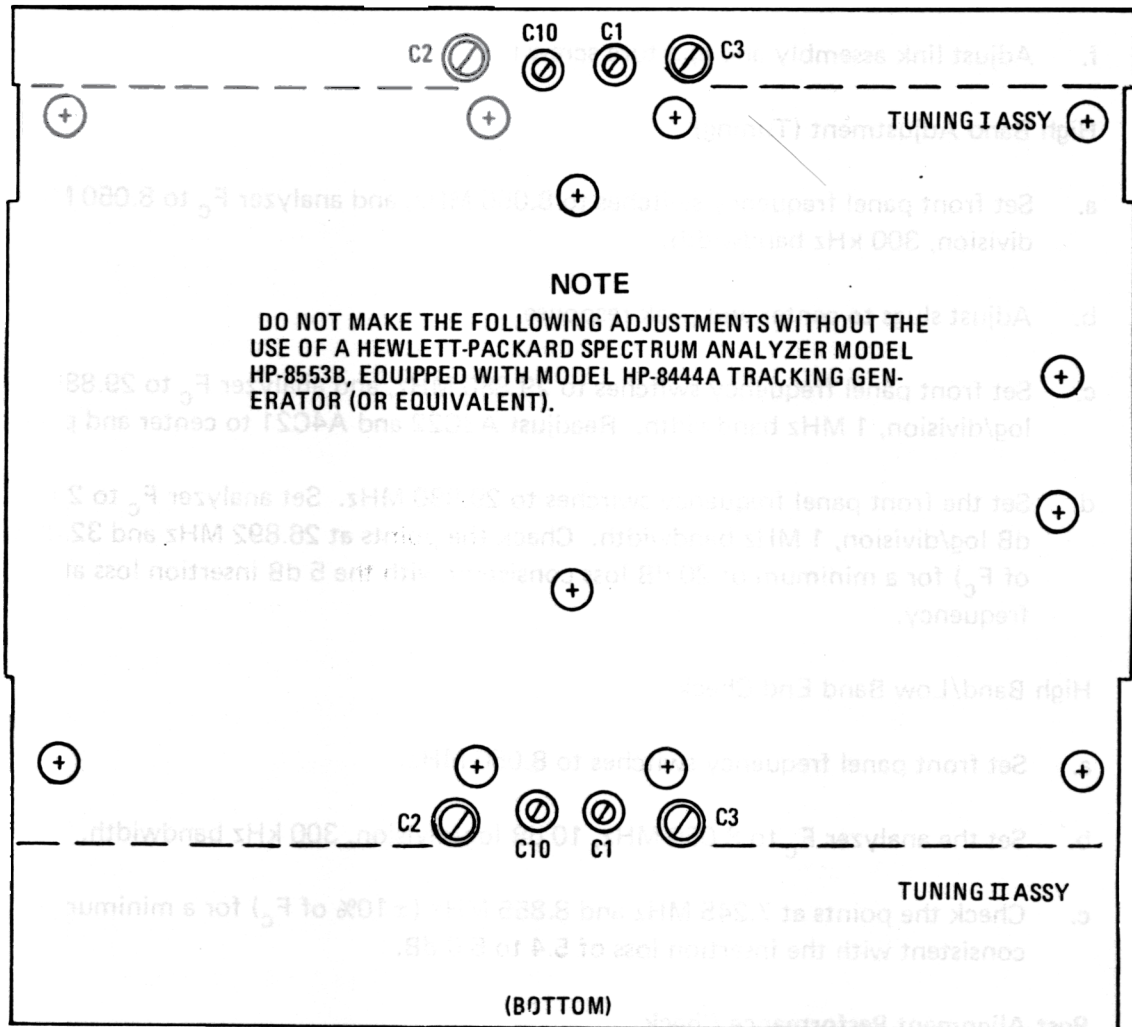

Figure 5. RF-596-02 Preselector Module Rear Panel Adjustments
- a. Refer to figure 5 and set the front panel frequency switches to 7.840 MHz. Set the analyzer to a  $F_c$  of 7.840 MHz, 2 dB log/division, and bandwidth of 300 kHz. Adjust A3C10 and A4C10 to center and peak the response.